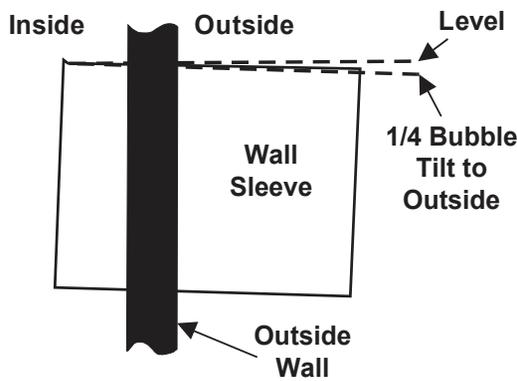

Fig 6 Proper Sleeve Tilt
- A slight downward pitch from the indoor side to the out-door side as shown(Fig 6).